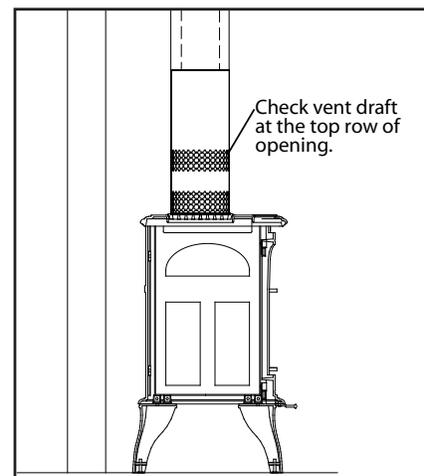

Figure 48: Draft test place.
4. After a minimum of 10 minutes operation, test the chimney draft with a smoke match at the top row of the pattern to confirm that there is adequate draft or 'pull' at the openings around the body of the Drafhood Adaptor, as shown in Figure 48.
2. Place the log set into the firebox. Locate each log by seating it down onto the burner tray support pins. Follow Figures 48 to 54 proper log placement.